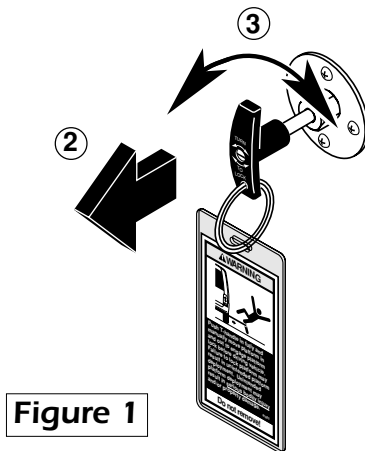

Figure 1
2. Pull "T" handle release cable. See Figure 1.
3. Turn "T" handle to lock platform in the released position. See Figure 1.